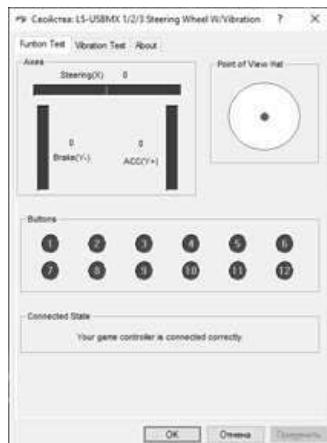
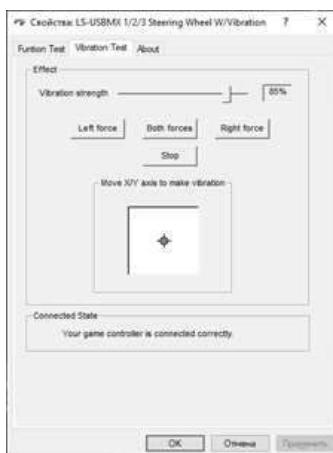

Fig. 6
Fig. 7
- Click on «Properties» button on the PC display «Properties: LS-USBMX 1/2/3 Steering Wheel W/Vibration» window will appear (see Fig. 6). Here you can check the operation of the axes and keys, check and adjust the vibration feedback «Vibration Test» (see Fig. 7).